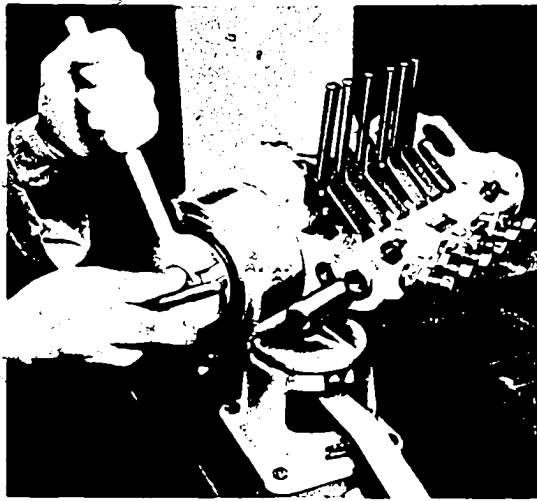

Fig. 11 Loosen round nut
- b) On pumps with automatic injection timer, loosen round nut with wrench EF 810-FD while counterholding with slotted ring wrench EFEP 119 (Fig. 11).